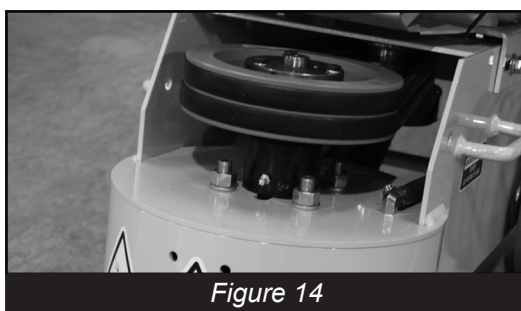

Figure 14
- Remove belt cover to expose belts. (*Figure 14*)